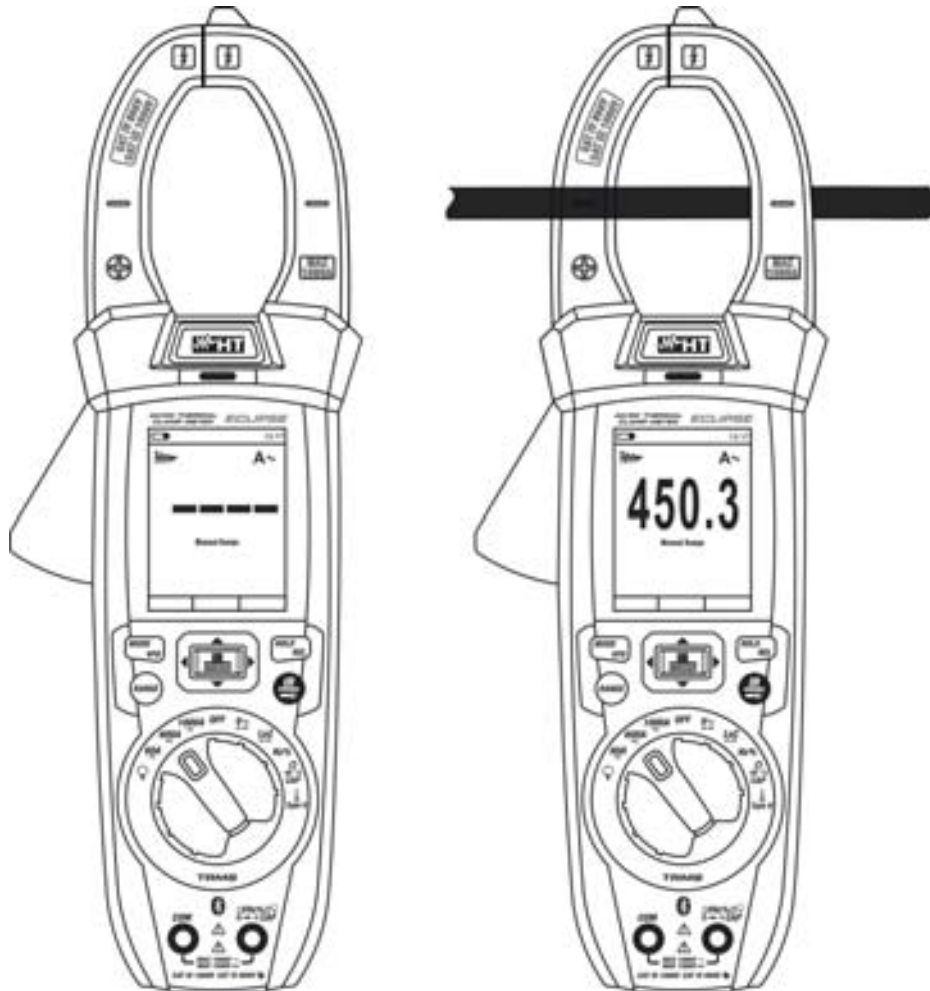

Fig. 33: Use of the instrument for AC Inrush current measurement
3. Long press the key **INRUSH** to activate the "INRUSH" function. The "**INRUSH**" and "----" symbols appears at display (see Fig. 33 – left side)
4. Put the conductor to be tested inside to the center of clamp jaw (see Fig. 33 – right side) in order to perform accurated measurements. Consider the notches on jaws as reference (see Fig. 3)